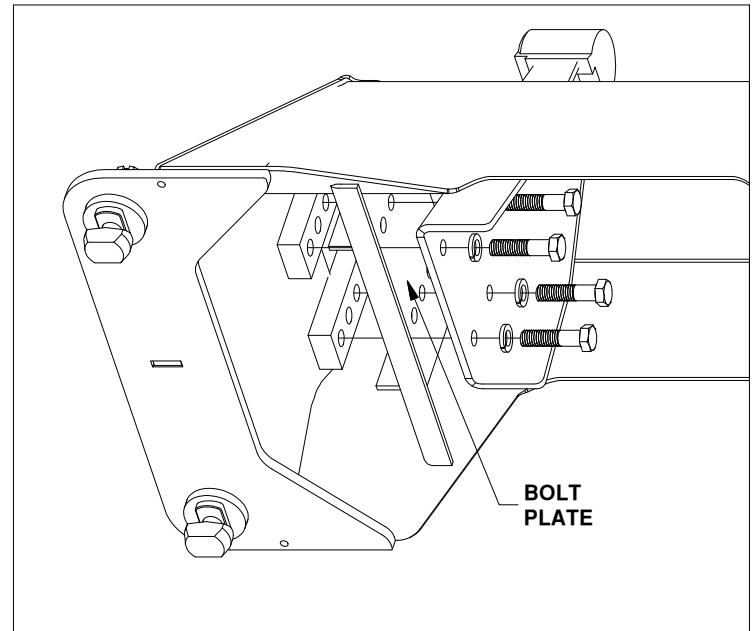

FIGURE A2: Passenger pivot arm mounting location.
2. Locate both pivot arms, the four threaded blocks, eight 1/2" cap screws, and eight 1/2" split lock washers. Place the lock washers over the cap screws. Align the flat side of the pivot arm flat against the bolt plate and install four 1/2" cap screws through the holes on the arm, holding the arm in place, as shown in figure A2. Locate the threaded blocks. Note that the sides of the block have threaded holes on one side and smooth bored holes on the other side. When installing the threaded blocks it is critical that the side with the smooth holes is flat against the bolt plate when installed. It is also critical that each of the five holes in the threaded block match up with the five vertical holes in the bolt plate. Pass the threaded block under the bases side and align the block with each set of screws and start each screw, as shown in figure A2. After all the screws are started through the arms, torque each bolt to 80 ft-lbs.